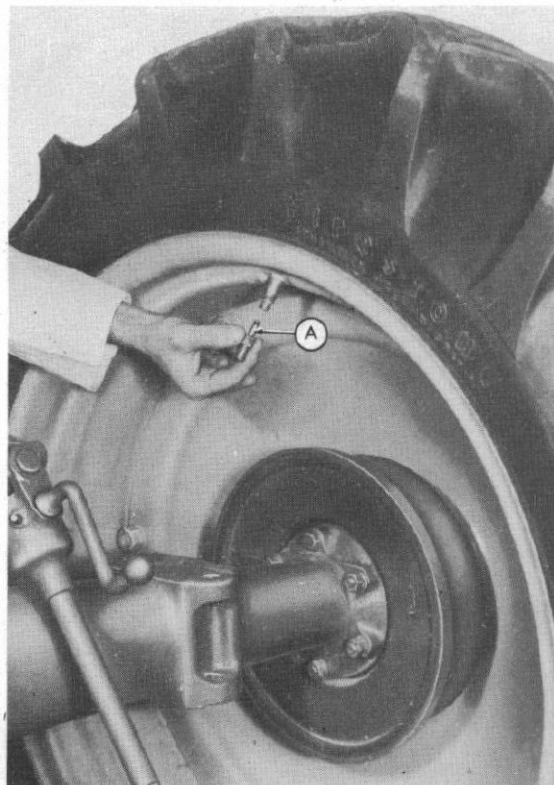

Fig. 2
- Step 8—Remove the core housing (A-Figure 2).